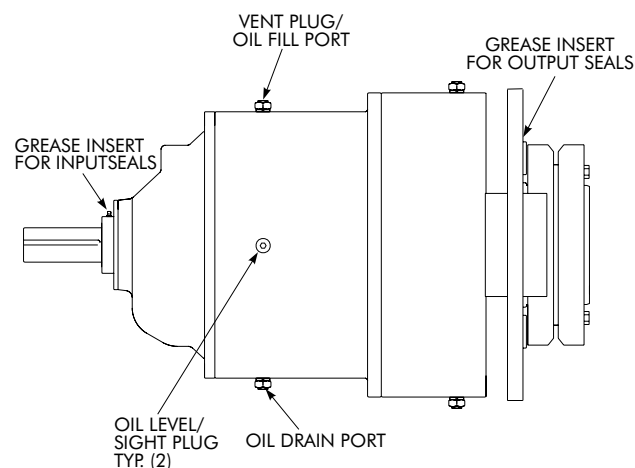

Figure 5.1
3. Remove oil fill plug (vent plug) and one of the two oil level plugs; reference Figure 5.1.
2. Remove oil fill plug (vent plug) for ventilation; reference Figure 5.1.
1. Clean grease inserts, reference Figure 5.1 for location.